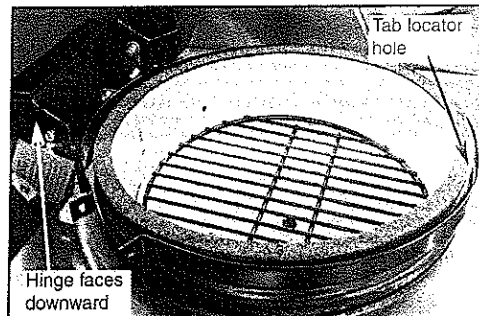

Fig. 2
2. Place the hinge onto the lower portion of the Egg, taking care to position the band-locator tab into the locating hole in the front of the Egg bottom. (See Fig. 2)